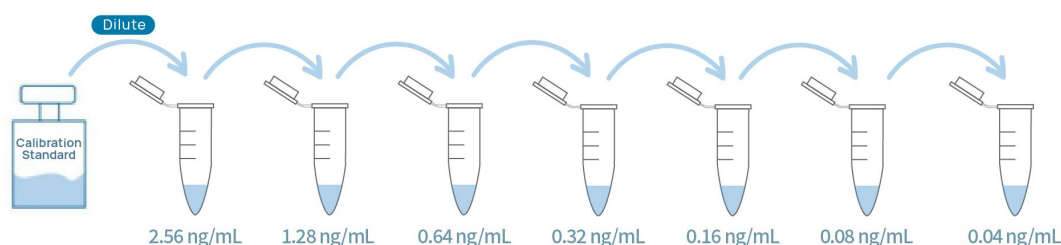

Figure 3. Graphic scheme of Trypsin Calibration Standard Solutions
(3) Preparation of Calibration Standard Solutions
- Prepare Trypsin Calibration Standard Solutions as indicated in Fig 3 and Table 3.